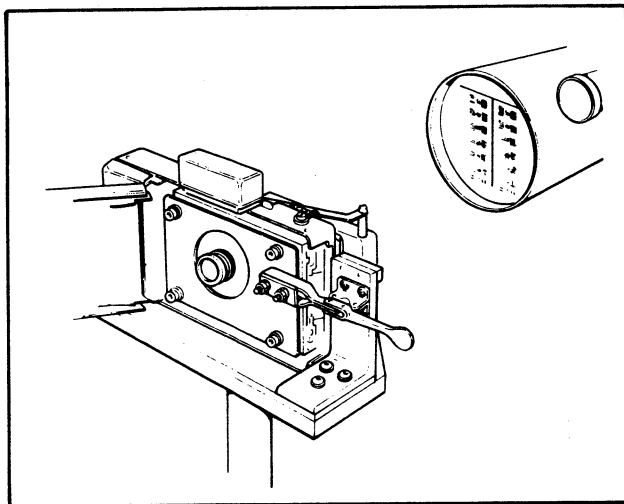

FIG. 5.52 CAMERA MOUNTED ON COLLIMATOR
5. Open the rear door and mount the camera on the collimator. Clamp the focal plane plate into position on the camera. (See Figure 5-52.)